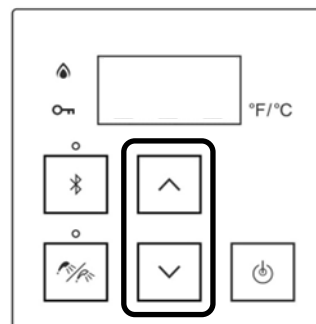

Figure 64
3. Press the up or down arrow buttons to obtain the desired temperature setting (Figure 64).